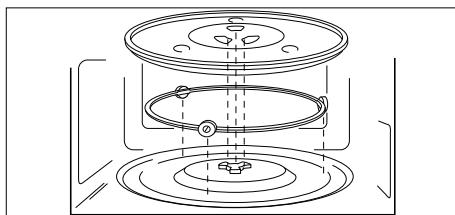

Fig. 4 – Inserting the glass turntable
- ▶ Place the roller ring in the recess in the cooking compartment and then place the glass turntable centrally on the drive shaft (see “**Fig. 4 – Inserting the glass turntable**”) so that the webs of the glass turntable lie between the wings of the drive shaft.